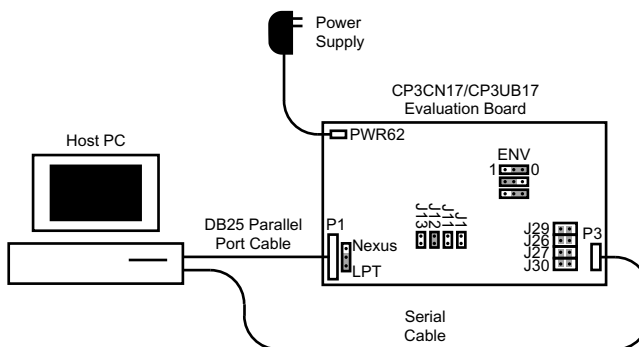

Figure 2-1. System Configuration
The hardware configuration for using the ISP interface is shown in Figure 2-1. The parallel port cable is used for downloading the software which handles the target side of the ISP interface. To enable the parallel port connection, the LPT/Nexus jumper must be installed on the LPT side of the jumper block.
1. **Configure the Evaluation Board for Downloading.** The evaluation board must be configured as shown in Figure 2-1, with the ENV jumpers selecting the IRE (111) or ERE (011) operating environment.